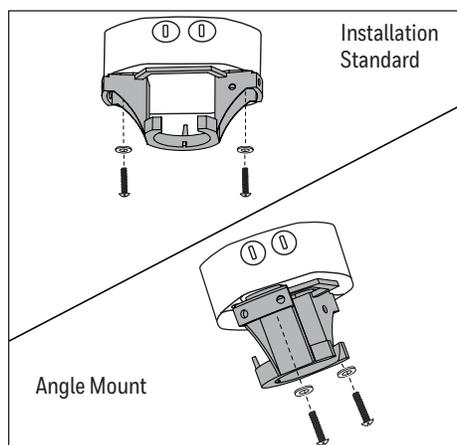

Figure 2.2
2. Install the mounting bracket to the outlet box (sold separately) using the screws and washers provided with the outlet box (sold separately) (Figure 2.2).